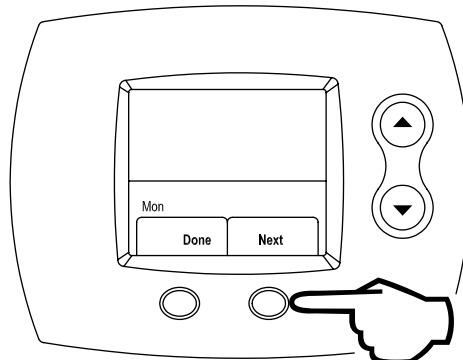

Figure 77
Step 3: Press the **RIGHT** (Next) button to edit a particular day water temperatures and times. This is shown in Figure 77.